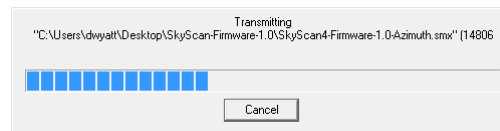
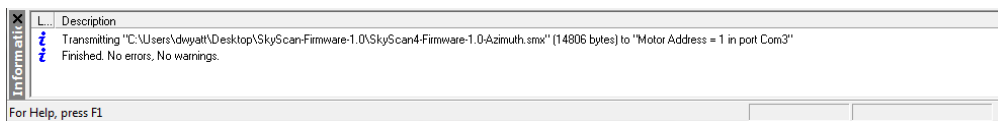

Figure 11: SMI Upload Progress
Figure 12: SMI Upload Finished
- 17) Now click the **OK** button. This will upload the firmware file to the SmartMotor. During this process you should see a progress dialog like the one shown in Figure 11. When the upload finishes, you should see a “Finished. No Errors, No warnings.” message in the **Information** window at the bottom of SMI as shown in Figure 12.